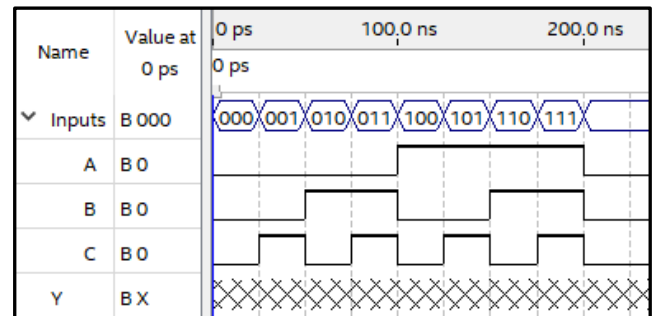

Figure 12: Grouping on vwf
- 2) Click on the arrow next to Inputs to expand your group. You should see something similar to Figure 12.